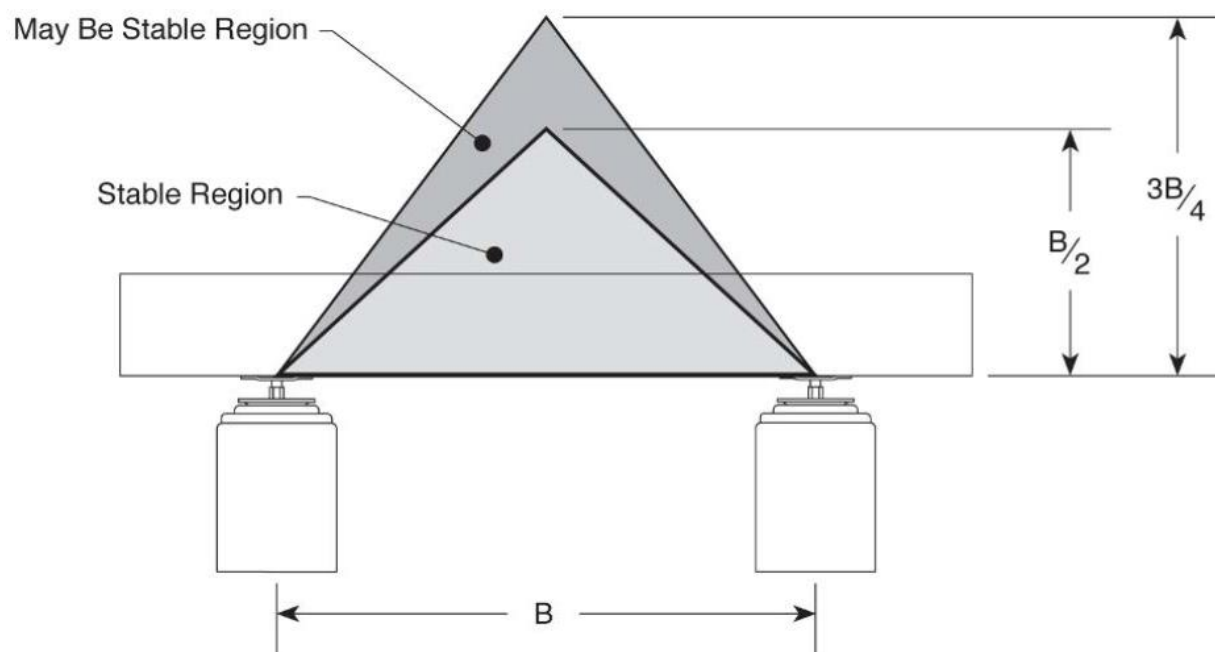

Figure 16: System stability diagram.
A rule of thumb for determining high center of gravity (CG) system stability is shown in Figure 16. If the combined center of gravity of the payload is within the “stable region”, the system will be stable. If the combined CG is inside the “may be stable region”, the system may be stable. If the combined CG is outside both regions, the system will probably be unstable.